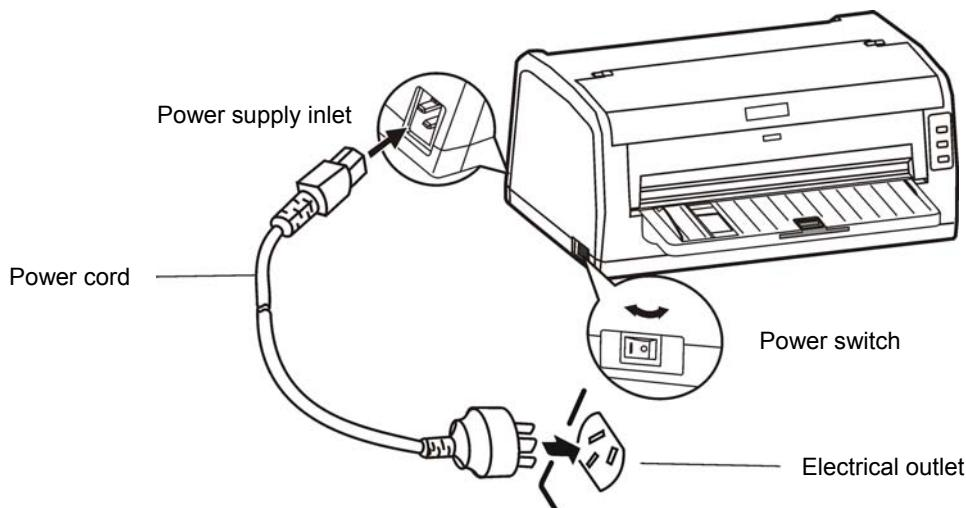

Figure 2-14 Connecting the power cord to the printer
1. As Figure 2-14 shown, make sure the printer is turned off. (The pressed down side of the power switch with "O" marks denotes the printer is off.)